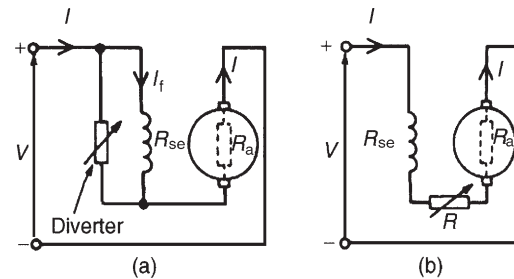

Figure 22.30
hence flux, for a given value of supply current. A circuit diagram of this arrangement is shown in Fig. 22.30(a). A variable resistor connected in parallel with the series-wound field to control speed is called a **diverter**. Speeds above those given with no diverter are obtained by this method. Problem 29 below demonstrates this method.
- (b) Speeds below normal are obtained by connecting a variable resistor in series with the field winding and armature circuit, as shown in Fig. 22.30(b). This effectively increases the value of R in the equation
With the 0.2Ω diverter in parallel with R_{se} (see Fig. 22.30(a)), the equivalent resistance,
$$I_1 \text{ (in Fig. 22.30(a))} = \left(\frac{0.2}{0.2 + 0.05} \right) I = 0.8 I$$
With reference to Fig. 22.30(b), at 800 rev/min,